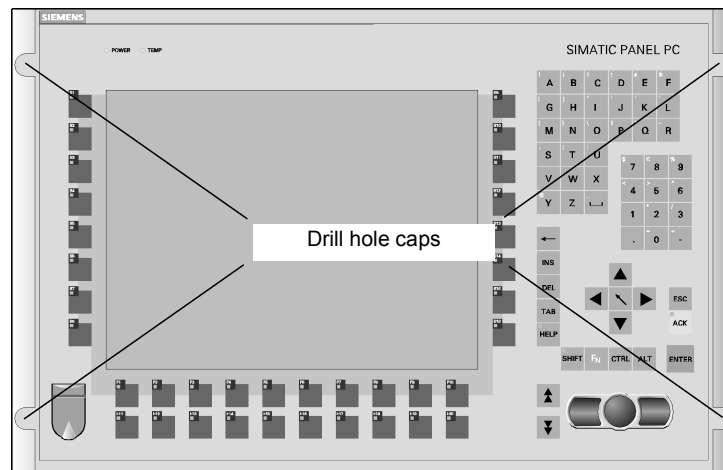

Figure 1–8 Drill holes with caps
1. Drill appropriate holes in the installation cut-out in accordance with the specifications to L4 and L5 in Figure 1–6.